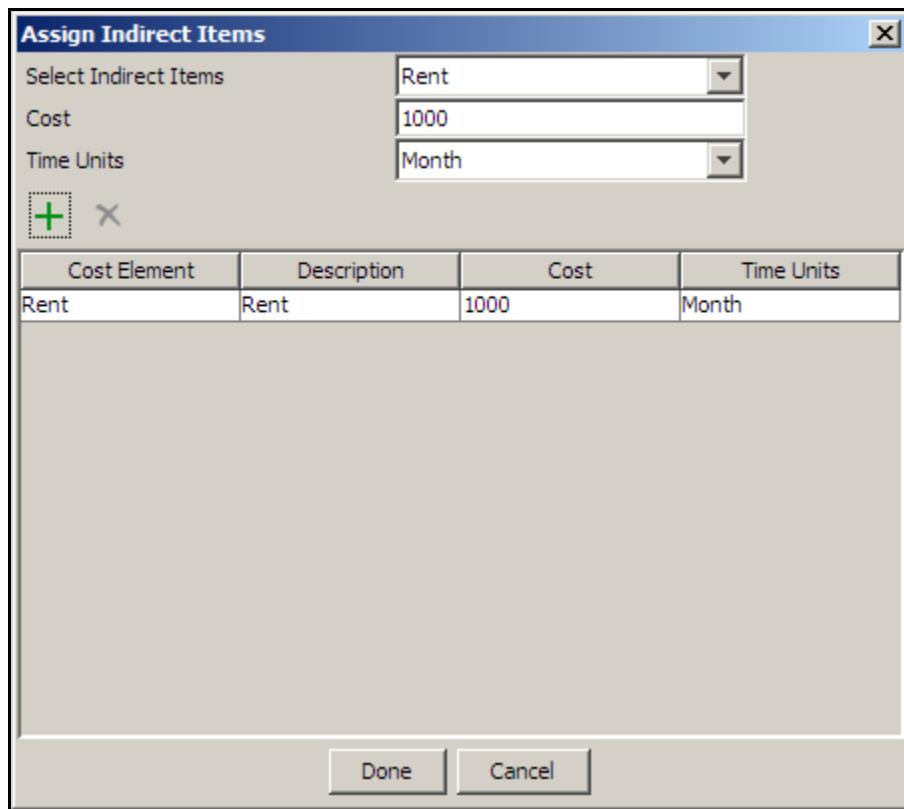

Figure 14: Indirect Resource Added
5. Click **Add Indirect Item** (+) to add the selected indirect item. The selected item is added as shown in the Figure 14.